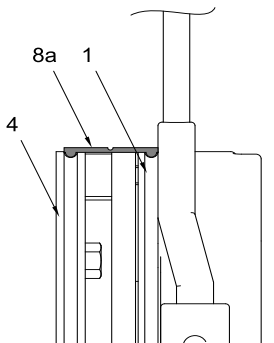

Figure 73 – Brake Seal
- Press the lips of the seal into the grooves into the stator (1) and the mounting flange (4) (see Figure 73).